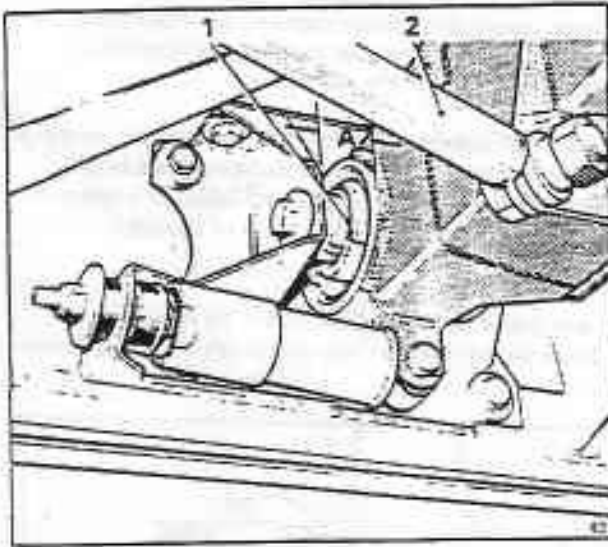

Fig. H2m Short in-line damper and rear crossmember mount
12. Remove the short in-line dampers attached to the rear suspension crossmember and body brackets (see Fig. H2m).